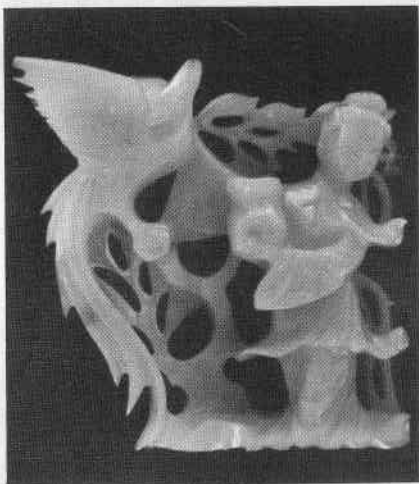

**Figure 14**
*Figure 14* shows a 6.81-carat emerald-cut diamond with a badly abraded culet. The stone was being offered for sale, but several dealers could not believe it to be a diamond because of the wear. It was not hard to discover that the late wearer of the stone also wore a diamond wedding band, which caused the abrading. Incidentally, with slight loss of weight the stone became flawless and was D in color.